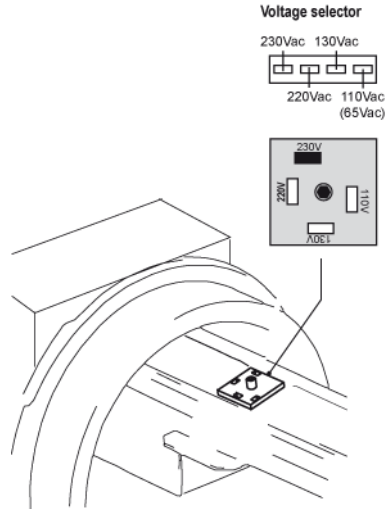

Figure 2 Voltage selector
The voltage selector is located inside the indicator on top of the backplane (figure 2).
- slide the mains selector switch in appropriate position (refer to figure 2)